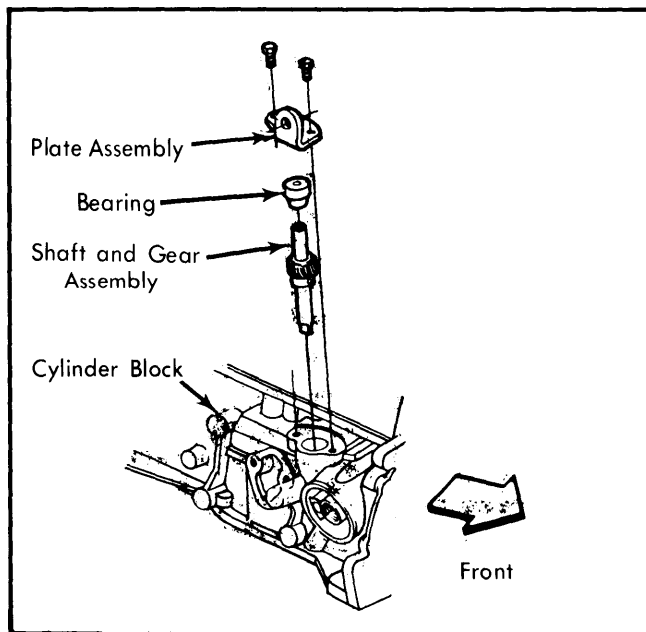

Fig. 7 Removing Oil Pump Drive Shaft
3) On crossflow head engines (VIN V and 9), remove oil pump drive shaft retaining bolts. Remove plate, bearing and shaft assembly. See Fig. 7.